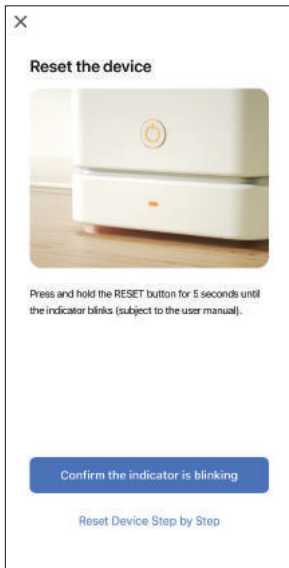
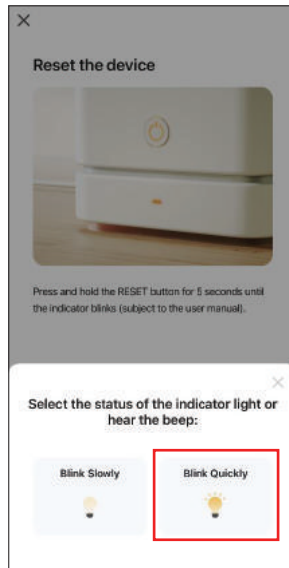

Fig. 7
Fig. 8
- 4) Click on the APP to "Confirm the indicator is blinking" and select "Blink Quickly". **(See Fig. 7 & Fig. 8)**